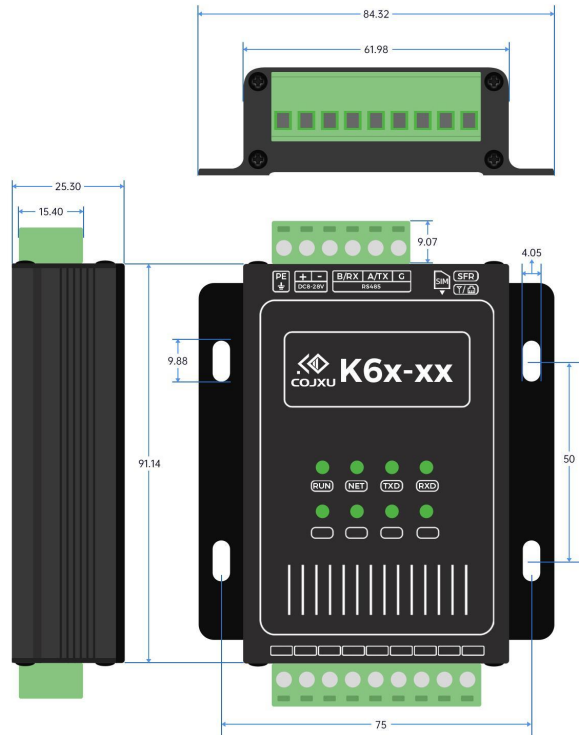

Figure 1-2 Product Dimensions
2. Figure 1-2 below is the reference size of the product, the error is ±0.3mm, please refer to the actual product.